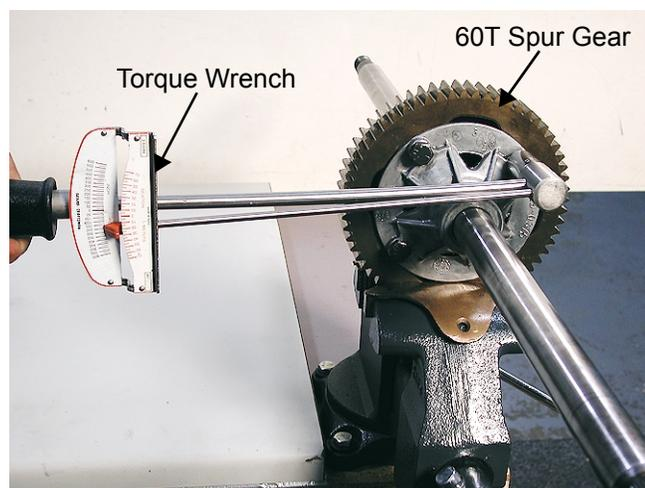

Figure 1
11. Secure the 60T spur gear in the soft jawed vice. See Figure 1.